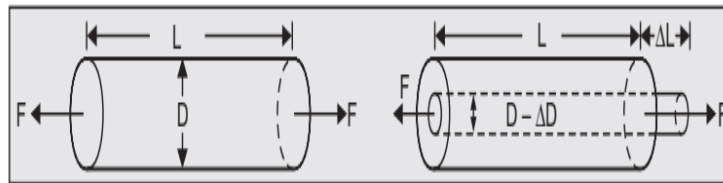

Figure Q2a
- a) Figure Q2a is a strain gauge element, given that the resistivity is ρ , derive the formula for the gauge factor